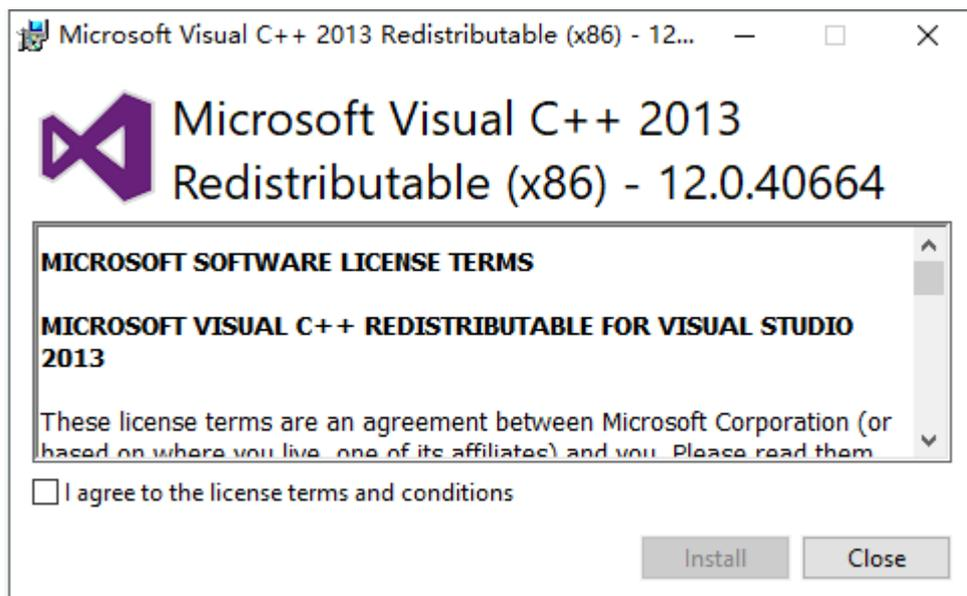

Figure 2.2-6
(8)After waiting for the installation to complete, a dialog box appears that prompts the installation runtime, using the environment necessary to install the software, as shown in figure 2.2-6: